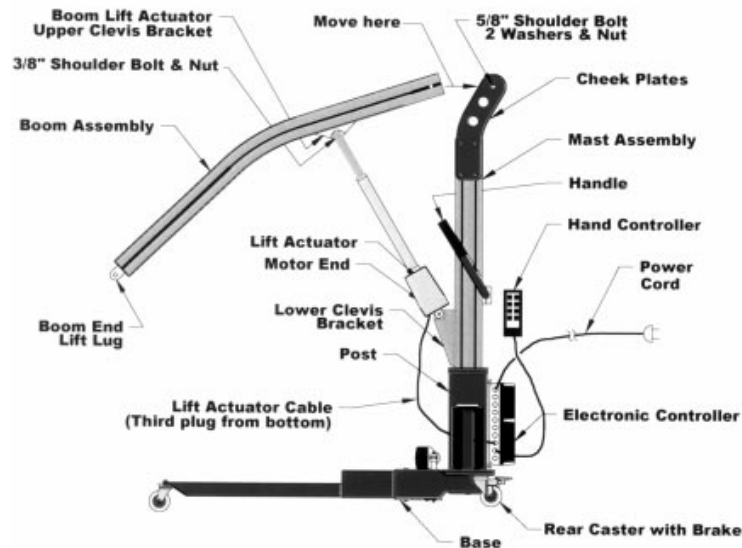

Figure No. 4 (Base, Mast, Lift Actuator & Boom Assembly)
Step 4. BOOM ASSEMBLY to BOOM LIFT ACTUATOR (Figure No. 4)
Step 5. BOOM ASSEMBLY to MAST ASSEMBLY (Figure No. 4)